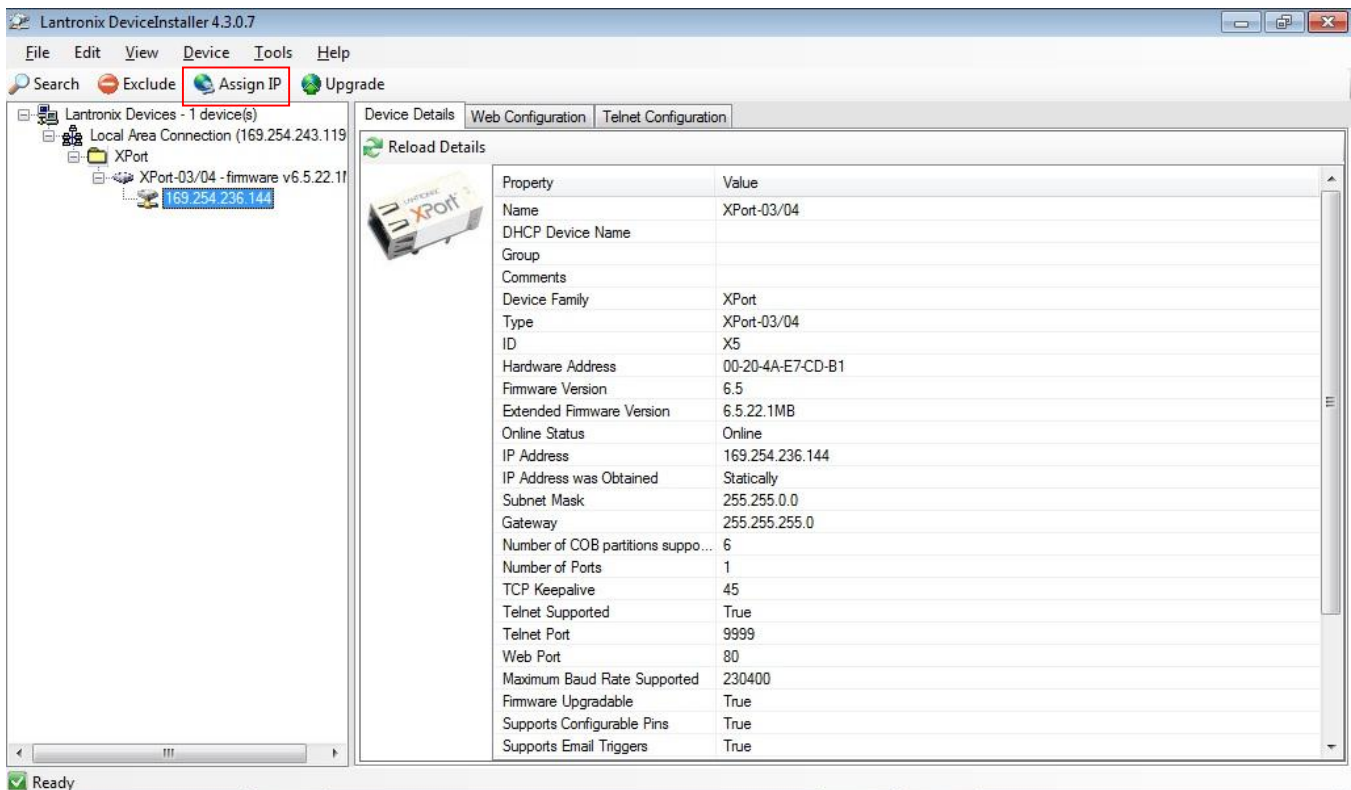

Figure A-21. Set up IP address – Select IP address
6. Once the IP address of the module is visible, single-click it to select it. In the example below, the IP address is 169.254.236.144. Then click **Assign IP** button in the menu. See Figure A-21 below.